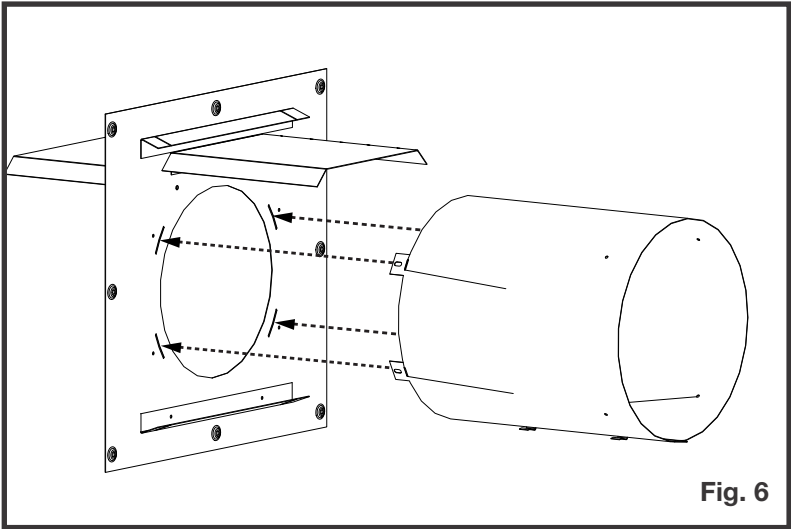

Fig. 6
- 6. Insert the vent sleeve tabs into the firestop spacer sockets, bend vent sleeve tabs, and secure to the firestop spacer with 4 supplied fasteners (Figure 6).
6. Secure the vent shield with two fasteners (supplied) to the front upper frame (Figure 6).